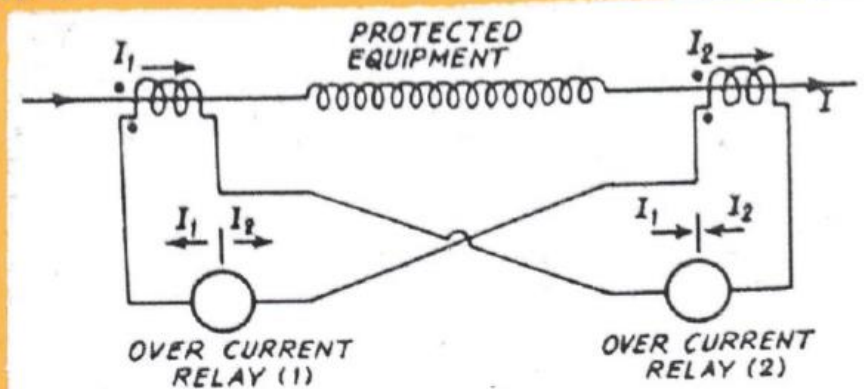

Fig. 3-18 . Through fault condition Differential Protection based on balanced voltage principle.
- * Fig 3-18 shows the principle of differential protection based on balanced voltage principle.